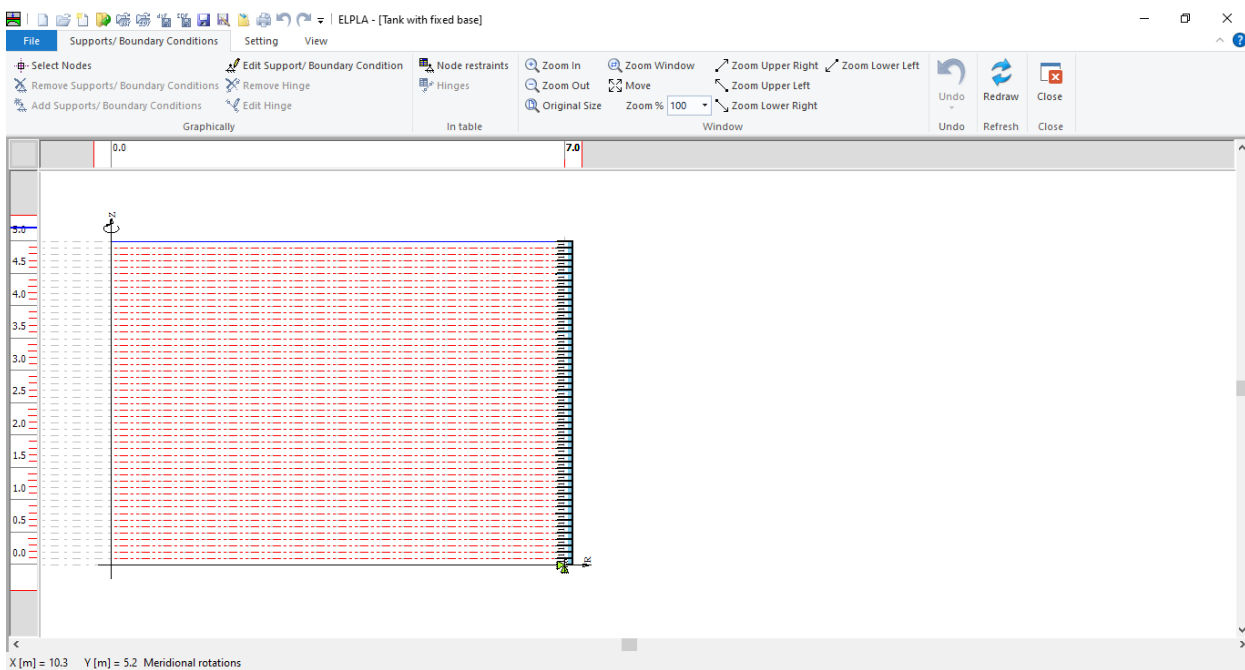

Figure 3.17 Supports on the screen
- Choose "Save " command from "File" menu in Figure 3.17 to save the data of supports
- Choose "Close" command from "File" menu in Figure 3.17 to close the "Supports/ Boundary conditions" window and return to the main window